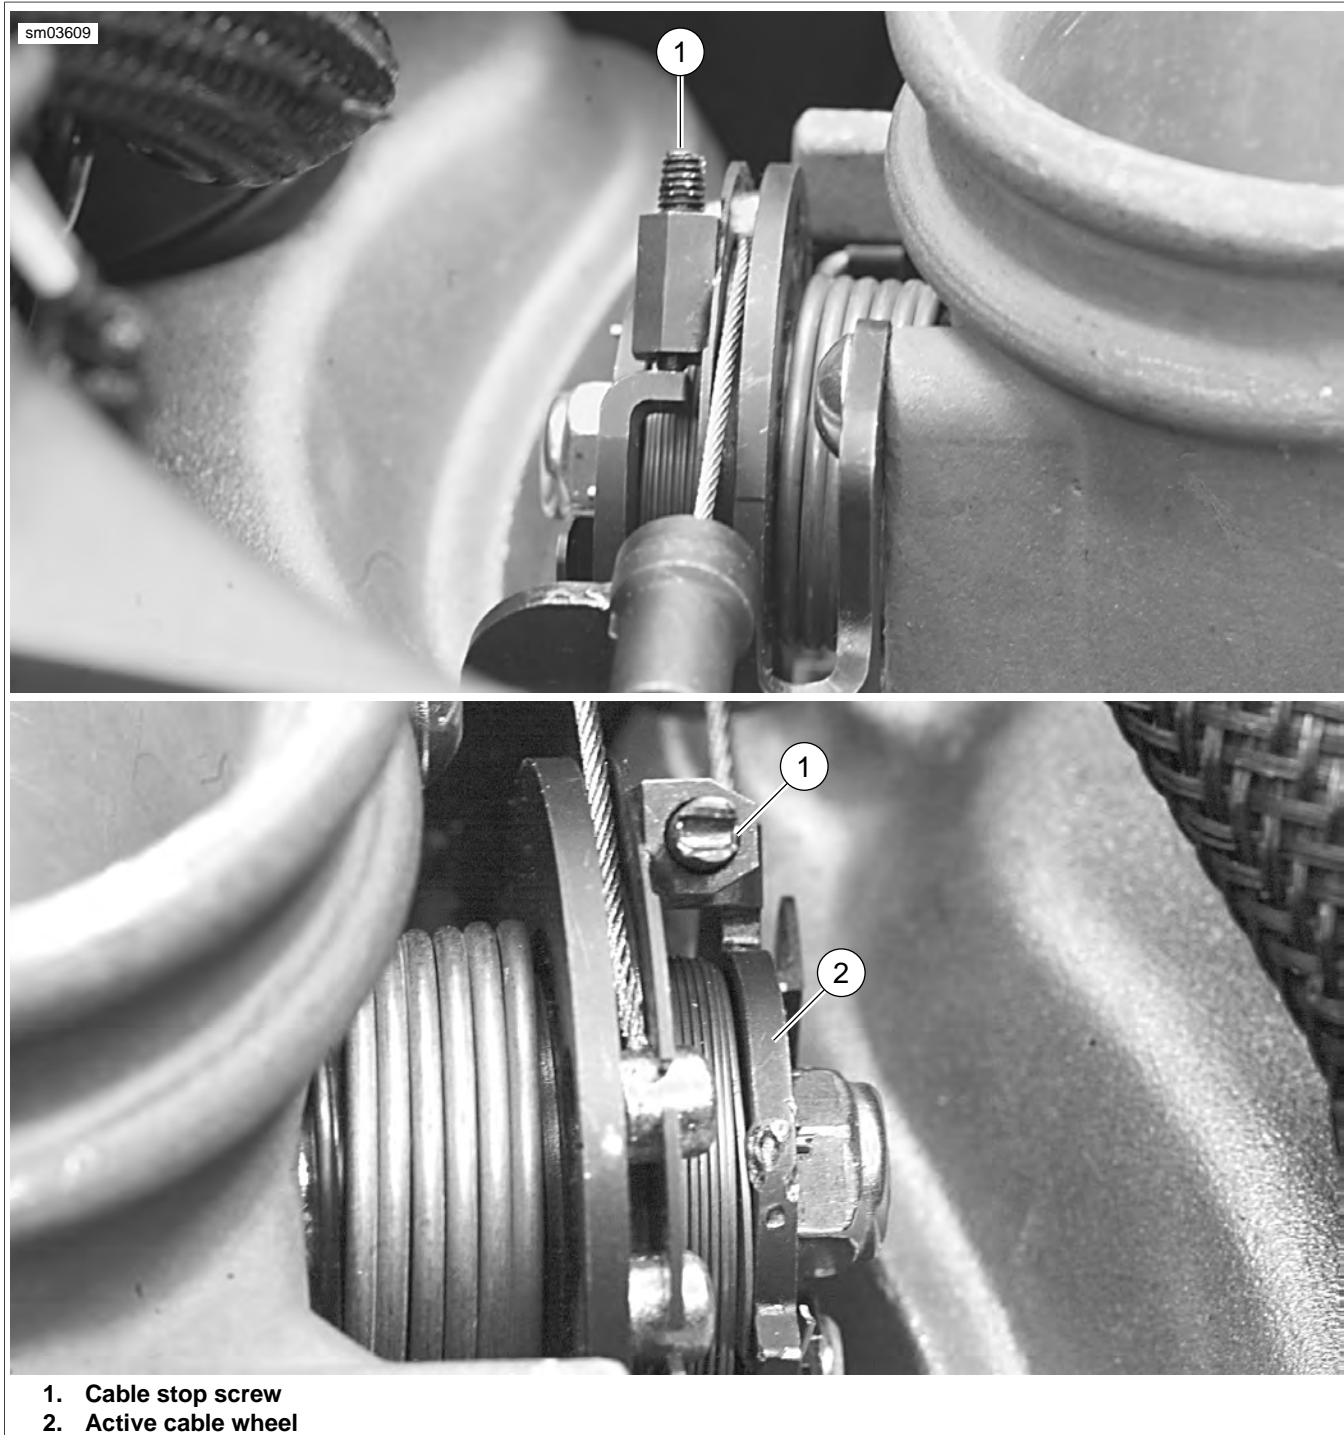

Figure E-3. Active Intake Cable Stop Screw
7. Remove baseplate (10). See 4.3 AIR CLEANER ASSEMBLY
8. See Figure E-3. If the active cable needs to be replaced disconnect from cable wheel (2).